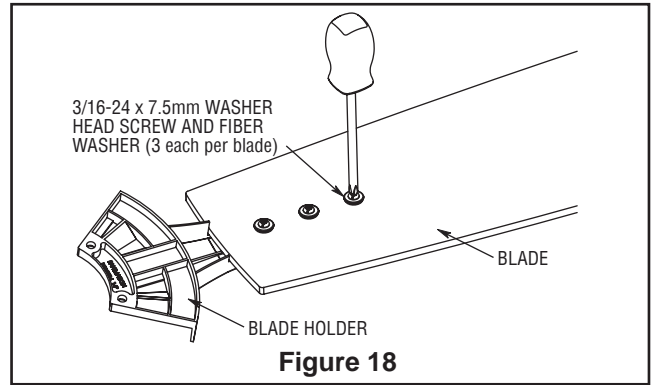

Figure 18
1. Position the blade over the blade holder with threaded posts showing. Make sure the bottom edge of the blade is fully seated against the blade arm. With a Phillips screwdriver, tighten 3/16-24 x 7.5 mm washer head screws and fiber washers to secure the blade to the blade arm (Figure 18).